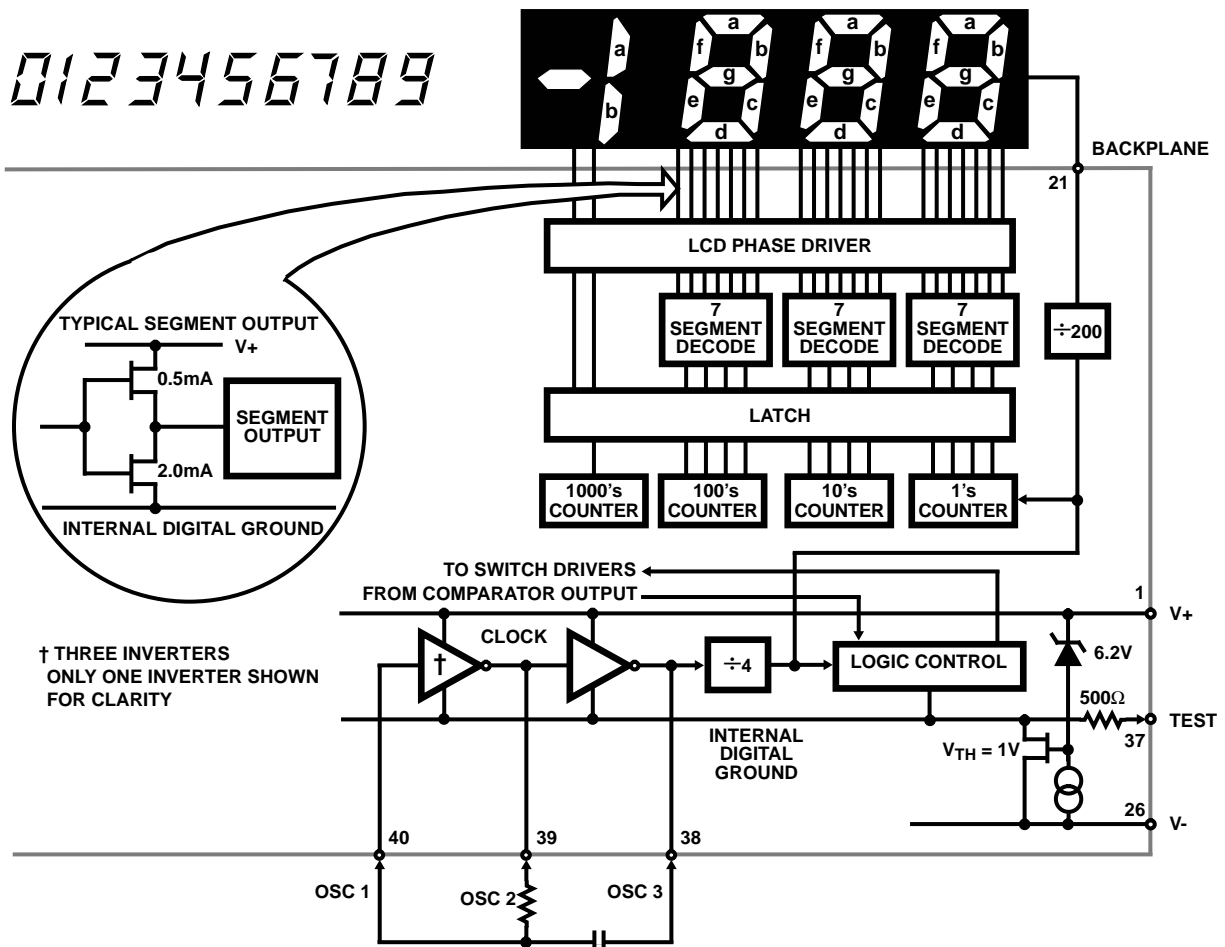

FIGURE 7. ICL7136 DIGITAL SECTION
Figures 7 and 8 show the digital section for the ICL7136 and ICL7137, respectively. In the ICL7136, an internal digital ground is generated from a 6V Zener diode and a large P-channel source follower. This supply is made stiff to absorb the relative large capacitive currents when the back plane (BP) voltage is switched. The BP frequency is the clock frequency divided by 800. For three readings/second this is a 60Hz square wave with a nominal amplitude of 5V. The segments are driven at the same frequency and amplitude and are in phase with BP when OFF, but out of phase when ON. In all cases negligible DC voltage exists across the segments.